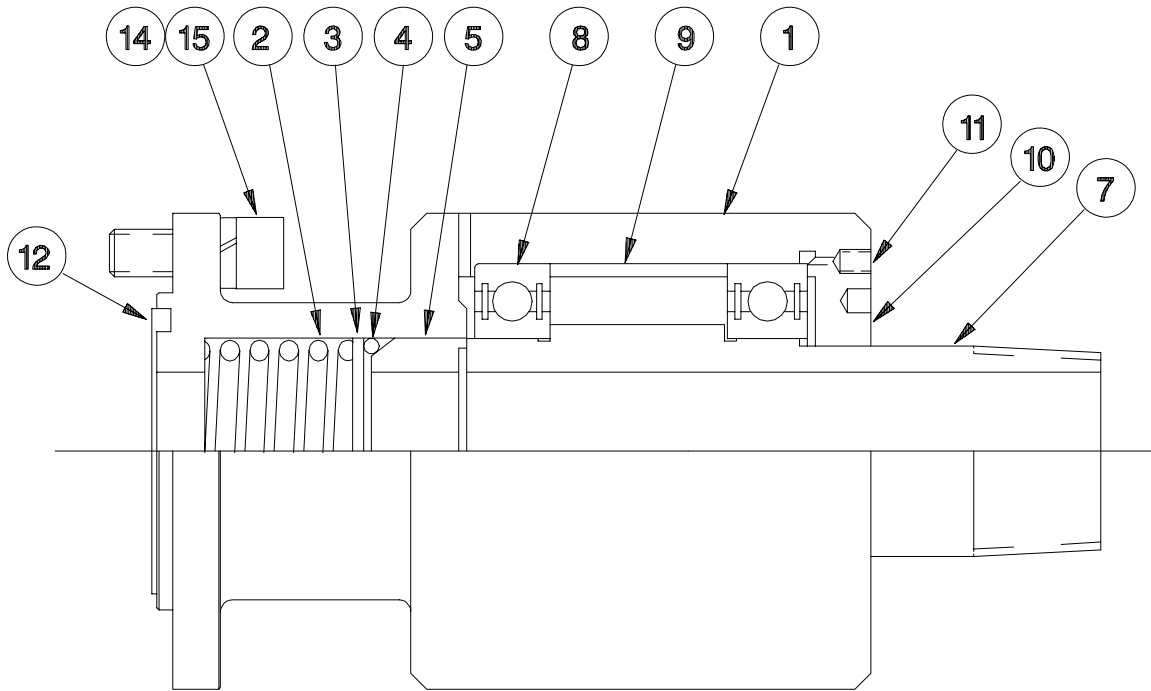

Figure 1
A replacement kit is available to allow the rebuilding of the type RH rotorseal (refer to the table under Figure 1). Airflex rotorseals are manufactured with quality materials to precision tolerances. These instructions should be followed carefully to assure a properly repaired rotorseal. Only Airflex rotorseal parts should be used. The rotorseal must be removed from its mounting, and repairs should only be made in a clean, dust-free environment.
- 4.3.1 Assemble spring (2), spring retainer washer (3), rubber seal (4) and carbon seal as shown in Figure 1. The rubber seal should firmly seat on the chamfered surface of the carbon seal.